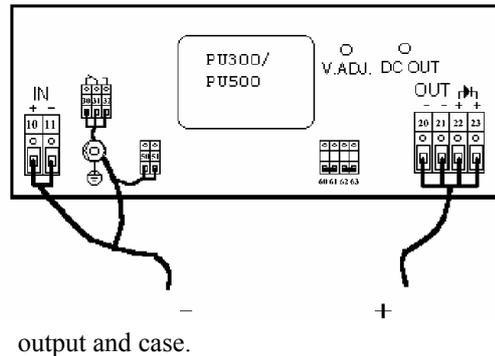

Figure 7. Output to case isolation voltage test.
4. Connect your isolation tester between output and case. See *Figure 7*. Raise the voltage of the isolation tester from 0 to 2000Vd.c. Check that the leakage current does not exceed 5µA. The voltage should not be applied for more than a few seconds or the Y-capacitors might be damaged.